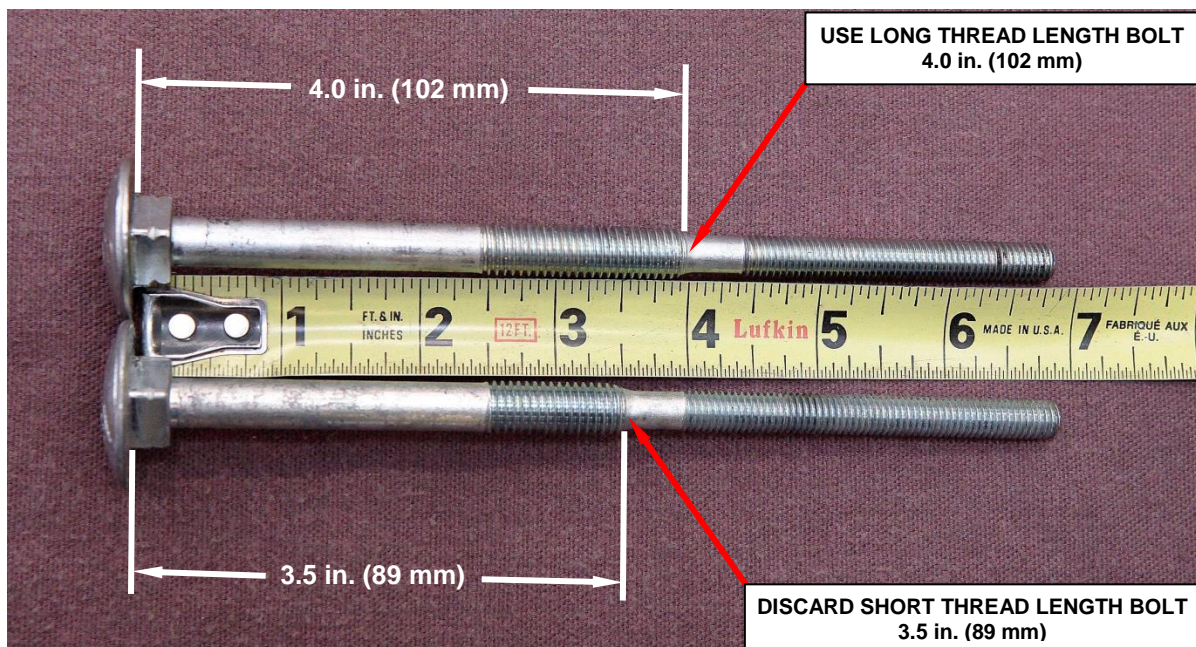

Figure 6 – Retaining Bolt Length
- c. Measure the distance from the bolt head to the end of the larger diameter bolt thread (Figure 6):
- If the distance is 4.0 in. (102 mm), reuse the bolt (Figure 6).
- If the bolt is 3.5 in. (89 mm), discard the short thread length bolt and replace with a new long thread length bolt (Figure 6).